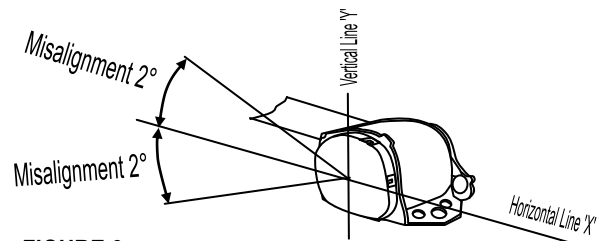

FIGURE 6
2. The retractor supplied is the dual sensitive type. Sudden vehicle movement and/or rapid webbing withdrawal will cause the retractor to lock. In order to secure the correct functioning of the sensing mechanism, the retractor must be mounted  $\pm 2^\circ$  of the X and Y plains, as shown in figure 6.